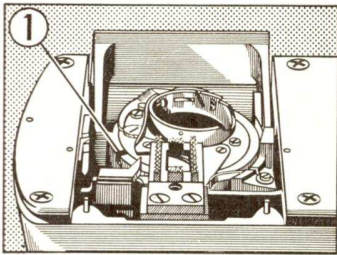

Fig. 8
The rotary hook (point 11) is only to be oiled occasionally. To do so, turn the slot (1) of the rotary hook to the left by means of the fly-wheel (see fig. 8).